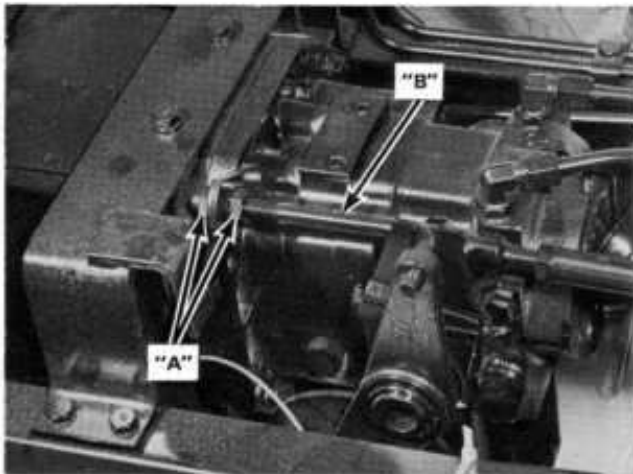

Figure 44
4. Loosen nuts "A" Figure 44. If the rear wheels creep "Forward" shorten link "B" Figure 44 until wheels stop creeping. If the rear wheels creep "Backward" lengthen link "B" Figure 44 until wheels stop creeping. Retighten nuts "A" Figure 44.